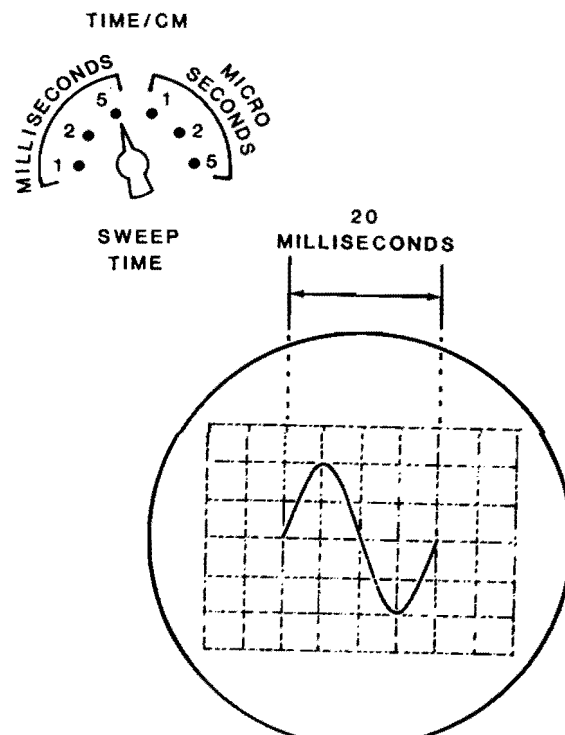

Figure 2-19 Measuring time with an oscilloscope.
Let's assume that the oscilloscope's sweep time control (TIME/CM) is set to the 5 milliseconds per centimeter position as shown in Figure 2-19. Each centimeter of horizontal deflection represents a time interval of 5 milliseconds. The waveform being displayed in Figure 2-19 is 4 centimeters wide. In other words, one complete cycle occupies 4 centimeters of the trace. The period of the waveform is equal to 4 times 5 milliseconds or 20 milliseconds.
For example, the waveform in Figure 2-19 has a period (T) of 20 milliseconds (0.02 seconds). This waveform has a frequency (F) of: